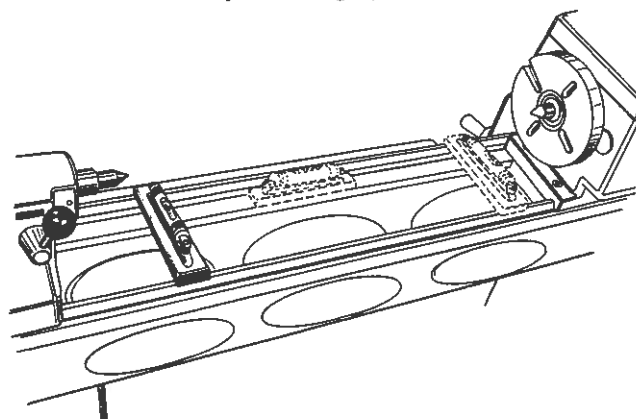

Figure 3
1. First level bed longitudinally, compensate for variations of bubble readings by turning the leveling screws on the cabinet base until bed is level -- refer to Figure 3 for level positions.
2. Next level both ends of the bed. The headstock and the tailstock -- must be checked with the level placed at right angles to the bed. Refer to Figure 3. Use a square to align the level. *Do not turn level end for end.*